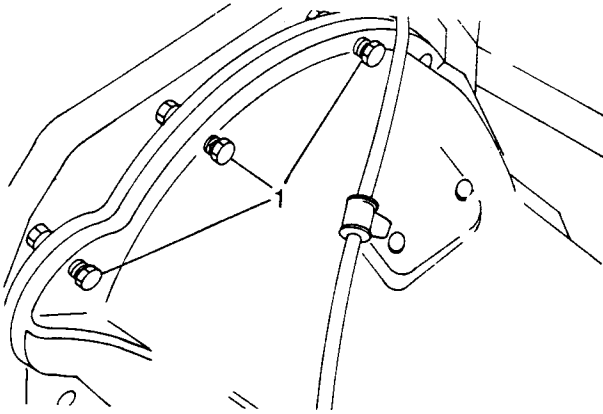

Fig B4.16
(26) Refer to Fig B4.16. Support the gearbox, using suitable packing blocks or a jack, and remove the bell housing to flywheel housing fixings (1).
(27) Pull the engine forward sufficiently to disengage the drive from the gearbox.
(28) Ensure that all cables, pipes etc. are clear then hoist the engine from the vehicle.